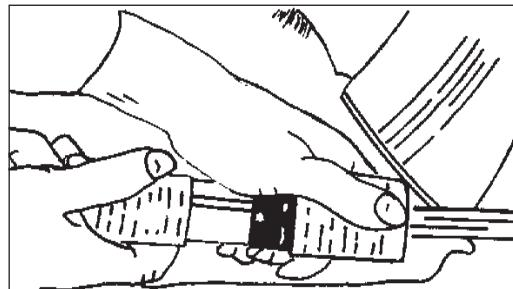

Figure 5
- Make sure the control switch is in the "Off" position then connect the supply cable to an appropriately grounded fused circuit. Connect the supply cable to the motor pigtail. (Figure 5)